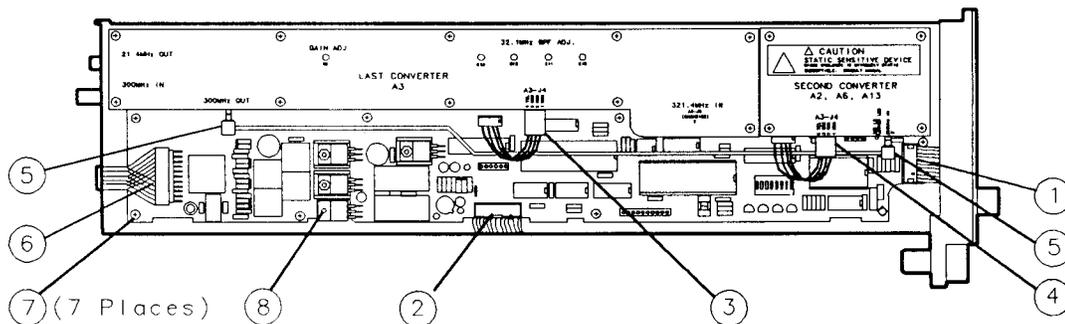

Figure 6-5. A4 Power Supply/Controller Replacement
3. Disconnect the W12 ribbon cable from A4J5 (1) and the W15 ribbon cable from A4J2 (2). See Figure 6-5.
4. Remove the W10 cable assembly from A3 Last Converter J4 (3) and the W11 cable assembly from A2 Second Converter J2 (4).
5. Remove the W9 coaxial cable (5) from the A3 Last Converter J3 and from the A2 Second Converter J1.
6. Carefully remove the W18 mylar ribbon cable from A4J1 (6).
7. Remove the seven board-assembly screws (7) and the one screw from the U11 Voltage Regulator (8).